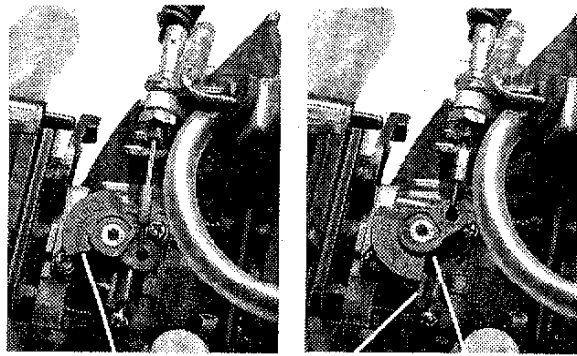

**Figure 13**
2. Adjust the throttle cable nuts until you achieve a free play on the throttle trigger of about 1/4 inch. See Figure 13.